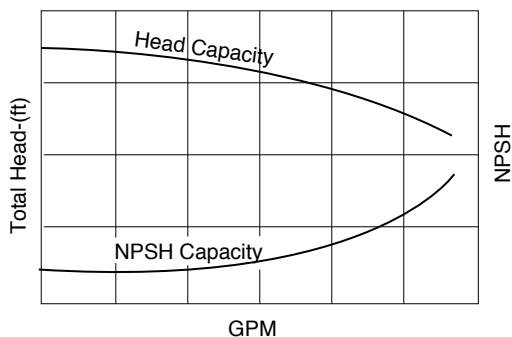

FIGURE 48. NPSH-Capacity Curve
- This curve is an important characteristic of a centrifugal pump and is always part of the pump's performance curves (Figure 48). It shows the relationship between the capacity that the pump will deliver and the NPSH that is required for proper operation of the pump at that capacity.